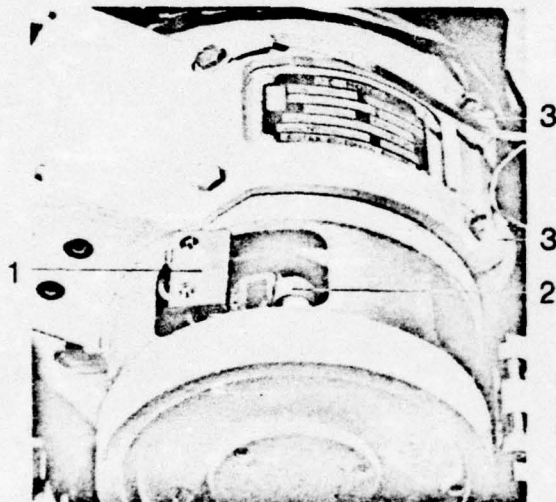

Figure 3.21
2. Carbon brush (1, Figure 3.21) is to be carefully taken out after lifting retaining spring (2, Figure 3.21) and its length measured with a steel rule. The admissible minimum length amounts to 12 mm.